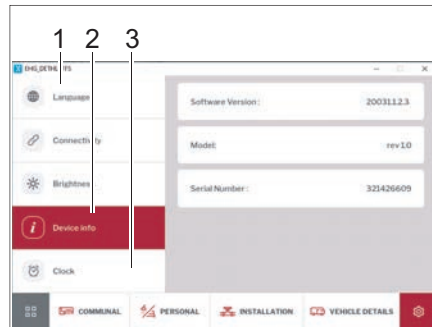

Fig. 267 Language, device information, time
- Click on the *Language* (Fig. 267,1) button and set the desired display language.
- Click on the *Time* (Fig. 267,3) button and set the time.
- Click on the *Device Information* (Fig. 267,2) button. Information on the device (software version, model and serial number) will be displayed.